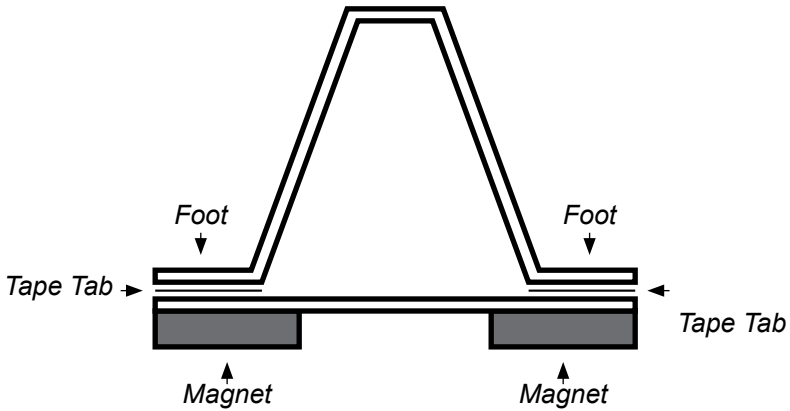

Figure 3
- 6) Take the motor stand piece and, with the scores closest to the middle facing up, carefully push the piece together. When bent, the scores created in Step 1 will create “feet” at each end of the motor stand. Adhere the motor stand to the chassis by setting these feet on the tape tabs (Figure 3). The end of the chassis near the motor stand is the front of the Warp Drive Levitator.